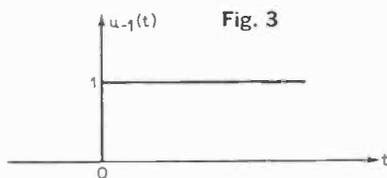

Fig. 3
**A. Definition.** A unit step function,  $u_{-1}(t)$ , is equal to 0 for  $t$  less than 0 and 1 for  $t$  greater than 0 (Fig. 3). This concept is useful in describing, for example, the application of a direct voltage (or direct current) to a circuit. If we let  $v = Vu_{-1}(t)$ , at  $t$  less than 0,  $v = 0$  and at  $t$  greater than 0,  $v = V$ . If  $i = Iu_{-1}(t)$ ,  $i = 0$  for  $t$  less than 0 and  $i = I$  for  $t$  greater than 0.